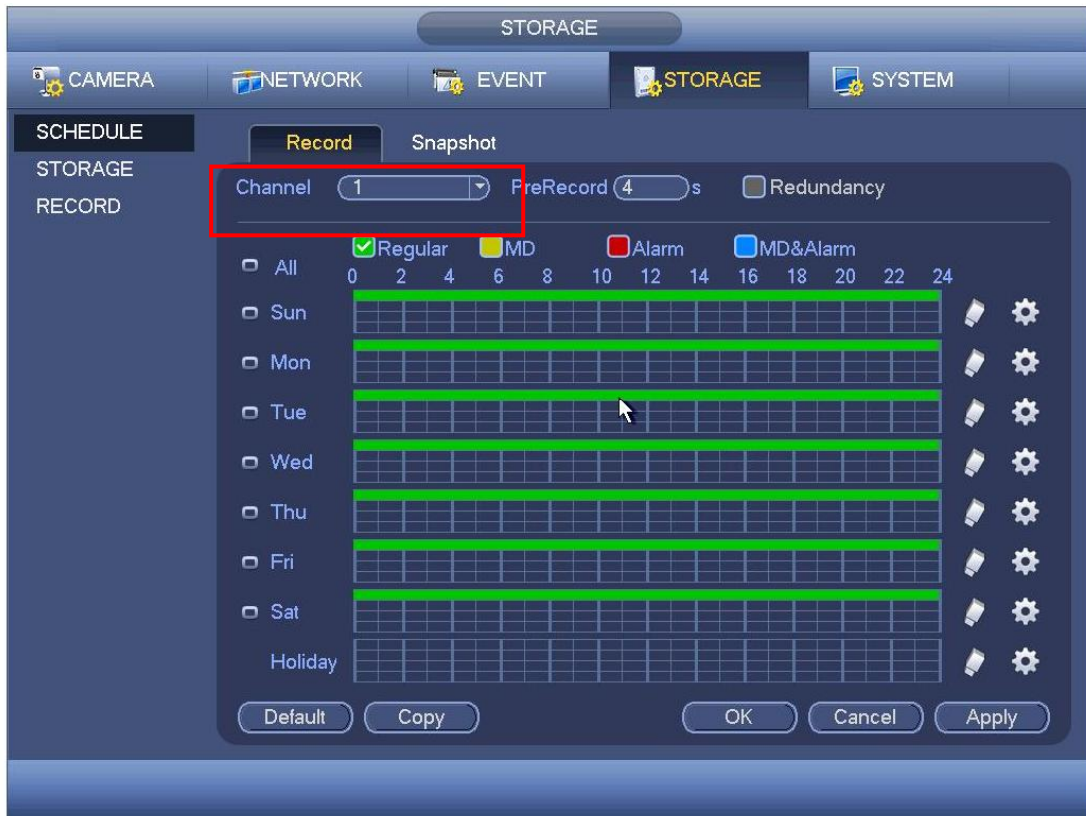

Figure 4-97
- In main menu, from Setting->Camera->Encode->Schedule interface, please enable snapshot function. See interface on the right of Figure 4-97.